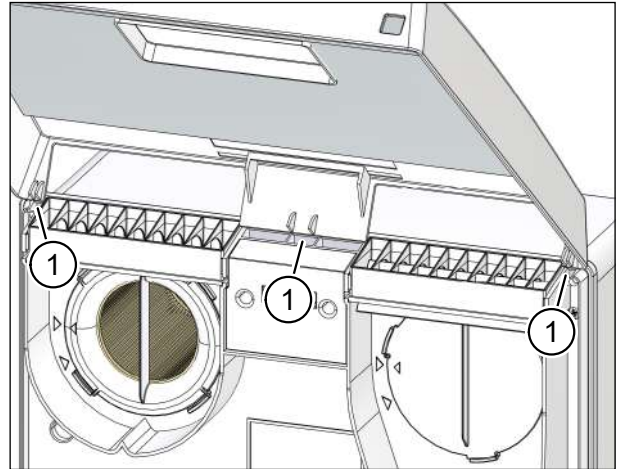

Fig. 46: Attaching the unit cover to the ventilation unit
- ▶ Insert the tabs (item 1 in Fig. 46) of the unit cover into the openings on the top of the ventilation unit.